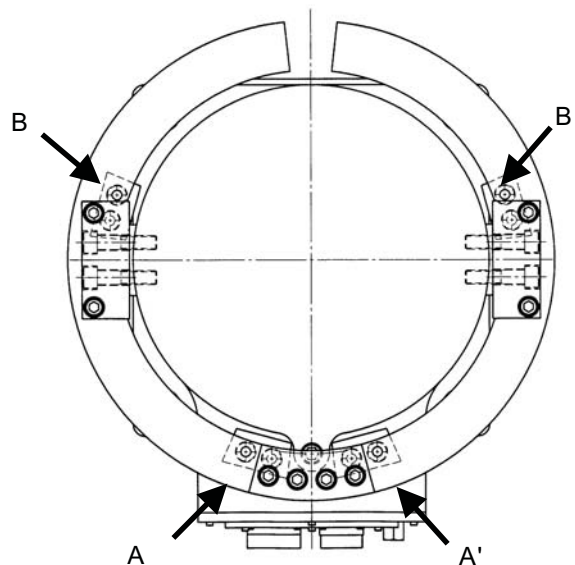
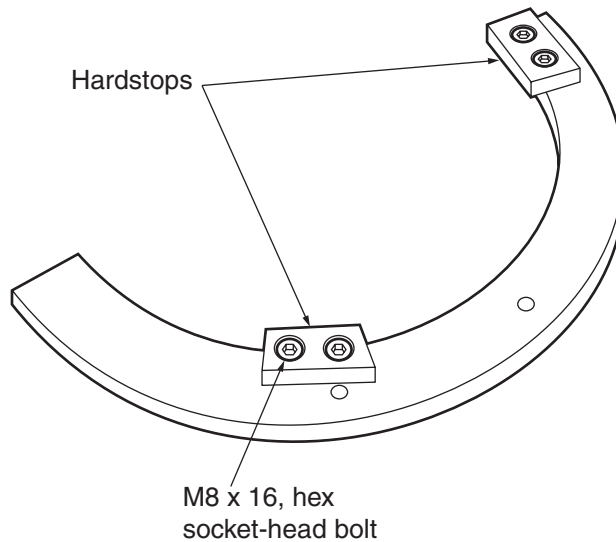

Figure 1-1. Added Hardstop Locations
Figure 1-8. Hardstops Secured to Plate
When shipped from the factory, the mechanical ends (hardstops) are set on the robot so that the stroke of the first axis (Joint 1) is ± 170 degrees. You can change the mechanical ends of the Joint 1 axis by adding hardstops. **Figure 1-1** shows the positions of the added hardstops.
3. Each robot can have a maximum of two hard stops. One is for the positive direction and the other is for the negative direction. There are four possible positions for these hard stops (two per plate; see Figure 1-1 on page 7 for available hardstop locations). Install the hardstops on the side of the plate(s) opposite to Fixture block A (installed in step 2). Secure the two hardstops to each assembly with two M8 x 16 hex, socket-head bolts. Tighten to a torque of 36 ± 7.2 Nm. See Figure 1-8.